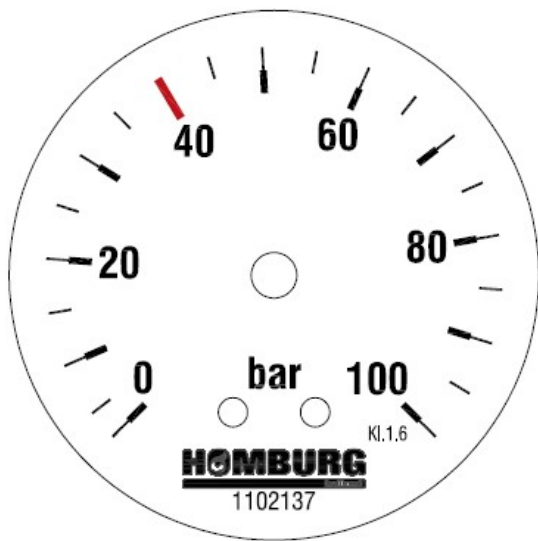

Figure 6 - Flush water pressure gauge
- B. Pressure gauge. Indicates the flushing water pump pressure in bar. (see figure 6)